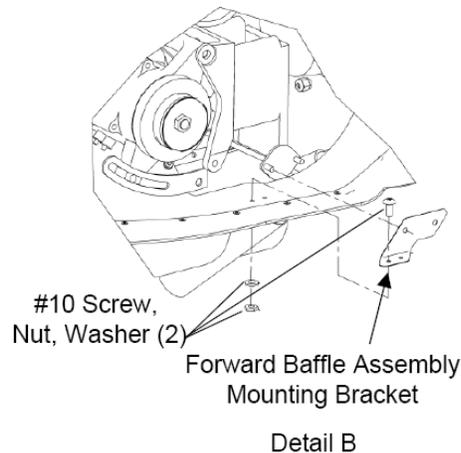

Figure 72-7 Forward Baffle Assembly Upper Bracket
9. Remove #10 screw, nut and washer sets (2) from the forward baffle upper bracket assembly as shown in Figure 72-7.
8. Install #10 screw, nut and washer sets (2) from the forward baffle upper bracket assembly as shown in Figure 72-7.